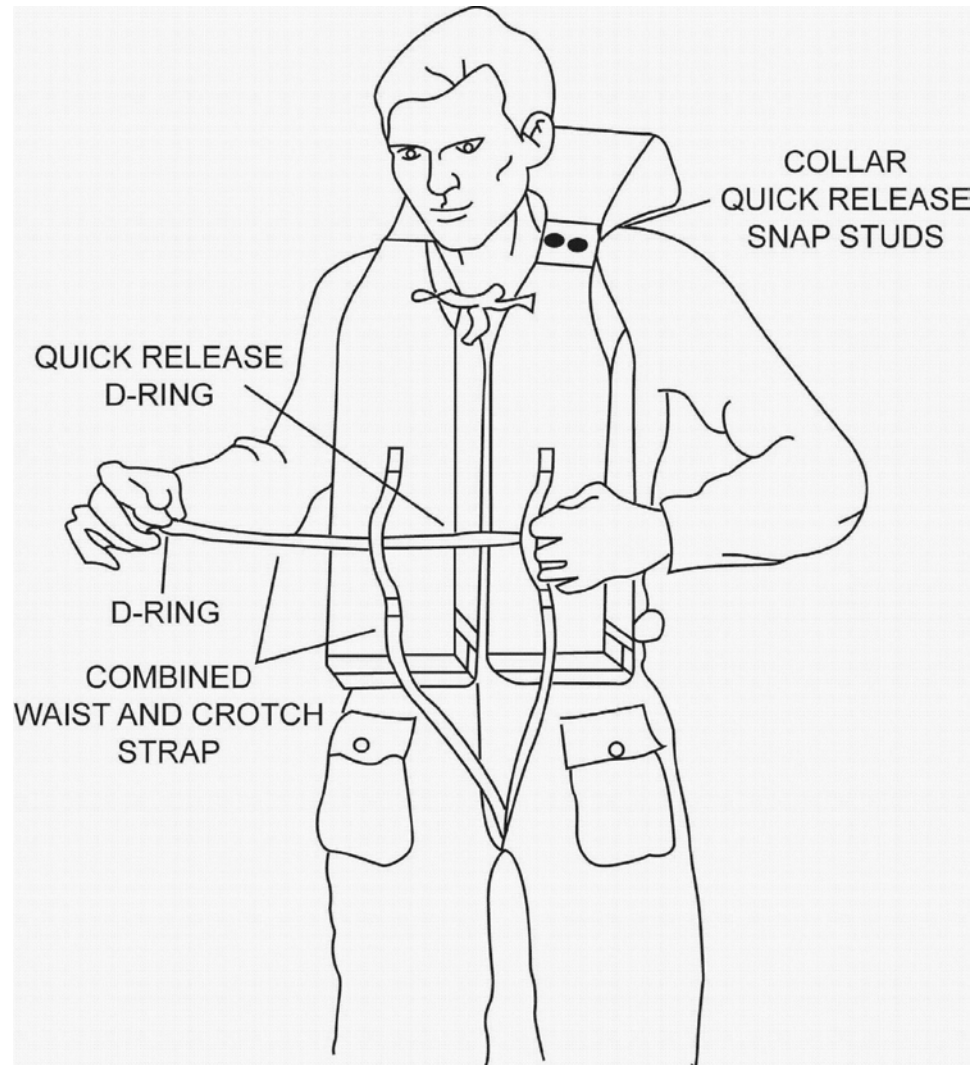

Figure 077-2-6. Final Donning Adjustment for Yoke Type Life Preserver
- f. Adjust the waist strap so that it is comfortable and snug. Tighten by pulling the strap through the D-ring, as shown in Figure 077-2-6.
- a. Pull the waist strap quick-release D-ring, shown in Figure 077-2-6, allowing life preserver to come loose.